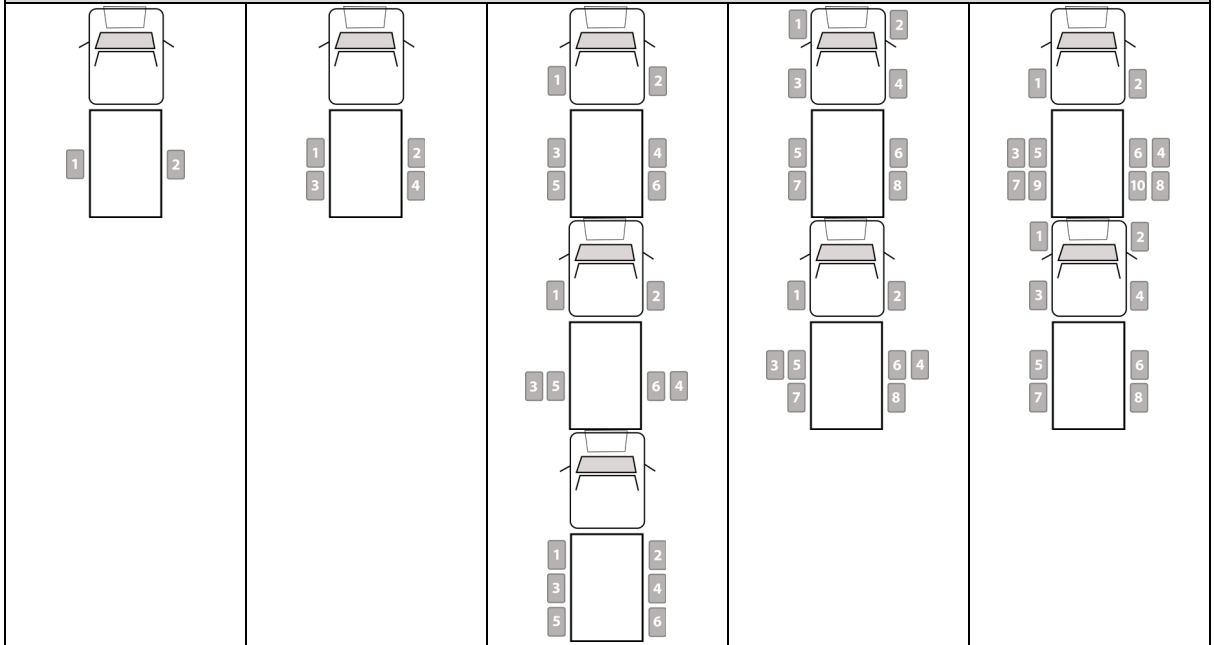

Figure 4.1 Wheel Orientation Mark
Each sensor has a unique Sensor ID# to identify the sensor to the receiver. The sensors included in the kit are already paired to the receiver from the factory for ease of installation and have a designated wheel orientation mark (1, 2, ... 6) on the sensor (see **Figure 4.1**). The wheel orientation mark on each kit sensor corresponds to a tire location on the vehicle and/or trailer. It is important to install the kit sensors to the corresponding wheels on the vehicle and/or trailer (see **Table 4.1 for reference**). If the sensors are installed in the correct corresponding wheel locations in Table 4.1 for up to six (6) sensors, then you can skip **Setting “8.5 Tire Sensor ID Pairing to the Receiver”** from **Section “8. Settings Mode Menu”** (**Note:** If installing additional sensors not included in the kit, the “8.5 Tire Sensor ID Pairing to Receiver” must be performed for the additional sensors only.)